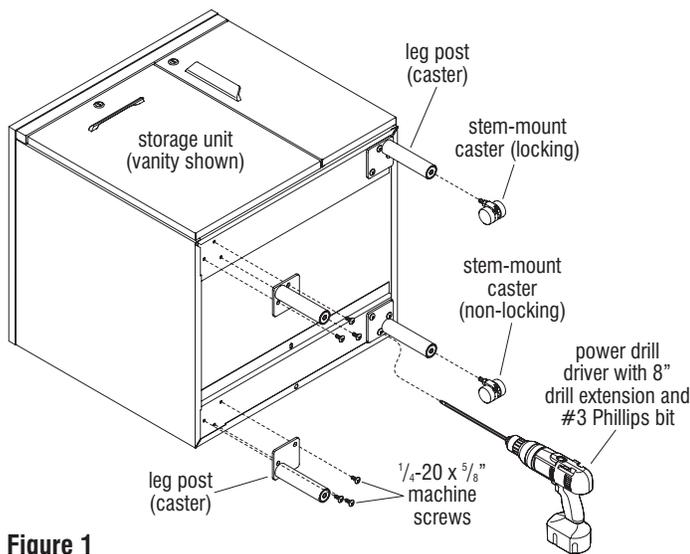

Figure 1
1. Carefully lay the low cupboard onto a soft, protective surface on its back-side. **Caution:** The assistance of a second person may be required to turn the unit onto its back (Figure 1).
2. Align the mounting holes of each leg post with the mounting holes on the underside of the storage unit. Using a power drill driver with 8" drill extension and #3 Phillips bit, secure each leg post to the storage unit using three  $\frac{1}{4}$ -20 x  $\frac{5}{8}$ " machine screws. Take care to not scratch the legs with the drill when assembling the legs (Figure 1).
1. Thread the stem of each stem-mount caster into the threaded insert at the underside of each leg post, making sure to position the two locking casters toward the front, user side of the storage unit and the non-locking casters at the back. Tighten the casters to the underside of the leg post using a 12 mm hex wrench (Figure 1 & Detail A).